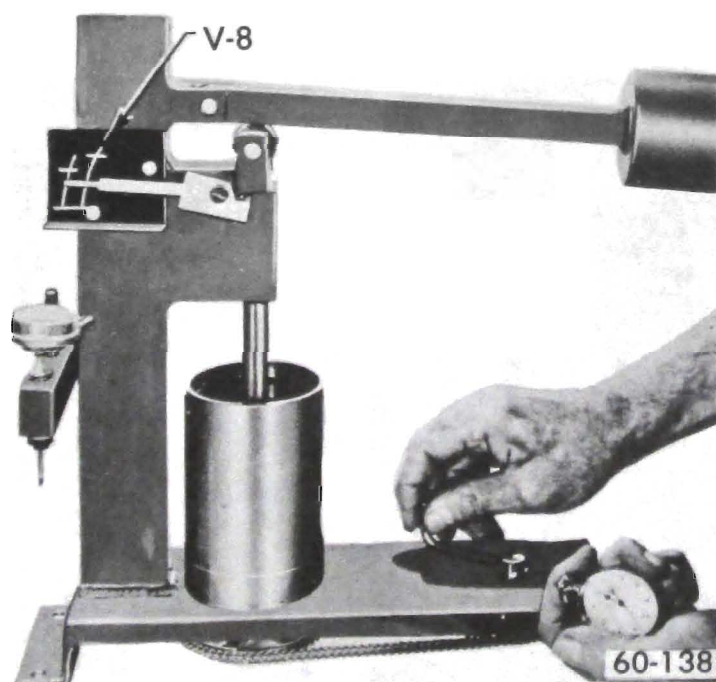

Figure 60-29 - Checking Lifter Leakdown Rate
4. Lower the ram to rest in the lifter push rod seat, then lower the weight arm to rest on the roller of ram as shown in Figure 60-29.